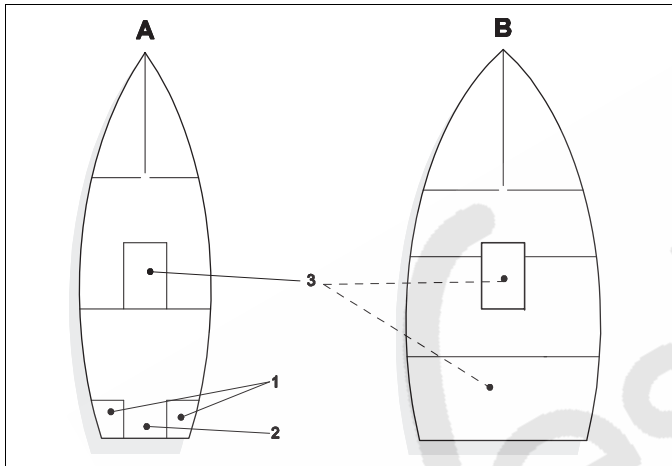

Fig. 2 Installing heater in locker (1), rudder box (2) or engine compartment (3)
- ▶ Recommended installation locations (see Fig. 2):